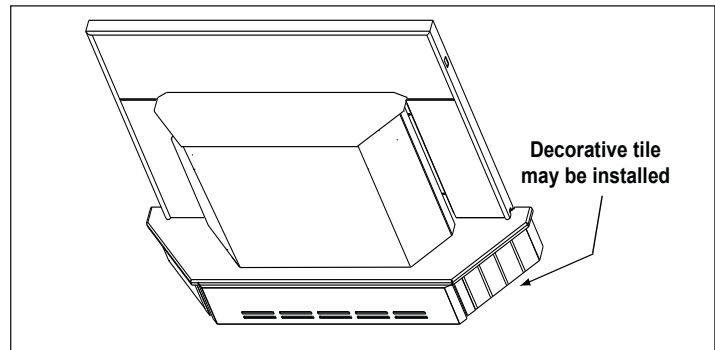

Figure 23.3
3. Measure front and side trims to required height to cover scissors and mark pieces for cutting. Cut excess material from **top** of trim's edge, not bottom. This edge will be sharp; wear gloves to prevent injury to your hands. **Figure 23.3.**
NOTE: 3/8 inch (9.5mm) thick tile or like material can be cut to size and fit under lip of top trim edge for a decorative touch. **Figure 23.3.**